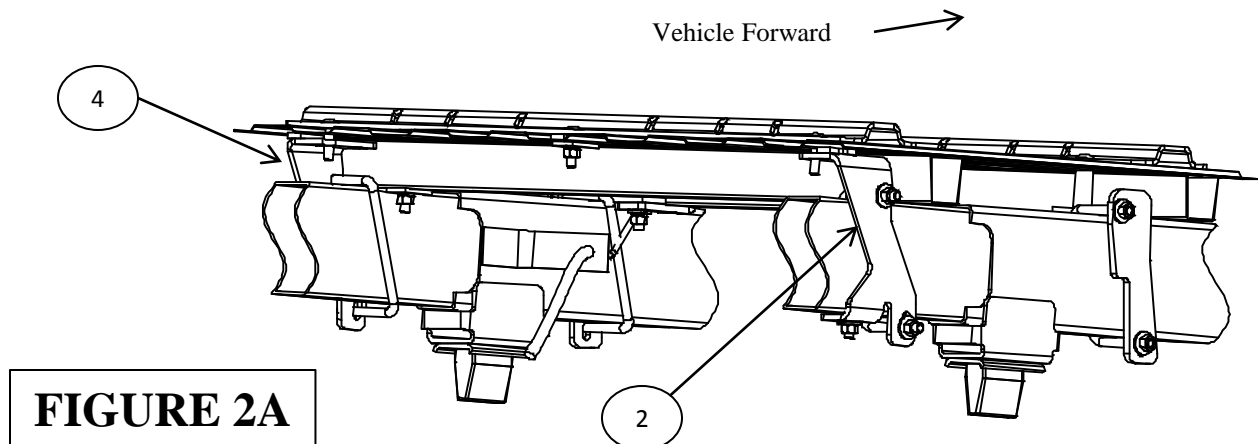
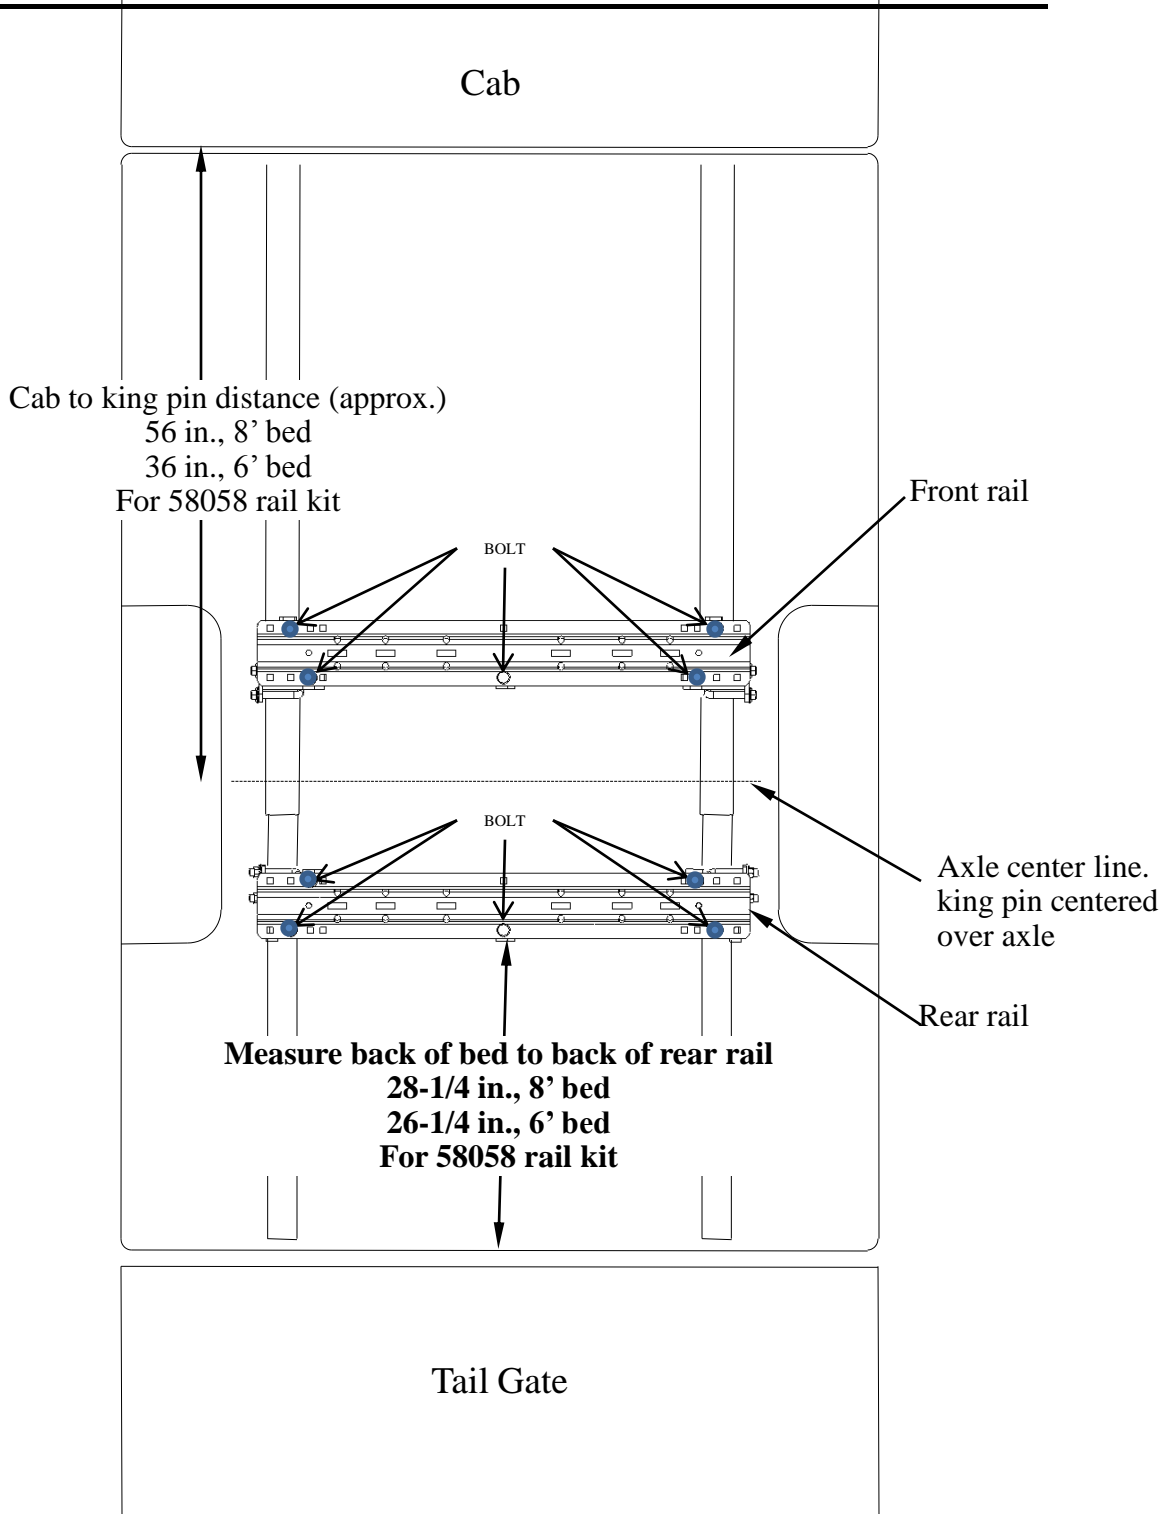

FIGURE 2A
Figure 3A
19. Install brackets (2) and (4) in reverse positions. See Figure 2A.
20. Put rear left hand bracket (2) on the outside of the right frame rail and rear right hand bracket (4) on the outside of the left hand frame rail.
21. Follow steps 1 – 18. For bed drilling locations see Figure 3A on page 5.